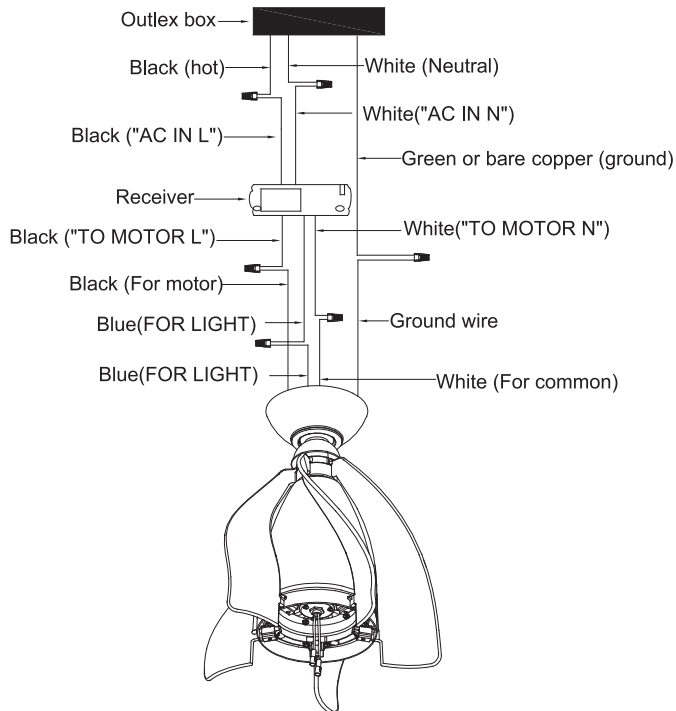

Fig. 17
Step 2. Motor to Receiver Electrical Connections: Connect the BLACK wire from the fan to BLACK wire marked "TO MOTOR L" from the receiver. Connect the WHITE wire from the fan to the WHITE wire marked "TO MOTOR N" from the receiver. Connect the BLUE wire from the fan to the BLUE wire marked "FOR LIGHT" from the receiver. Secure all the wire connections with the plastic wire nuts provided. (Fig. 17)
Step 3. Remote Receiver to Outlet Box Electrical Connections: Connect the BLACK (hot) wire from the ceiling to the BLACK wire marked "AC in L" from the receiver. Connect the WHITE (neutral) wire from the ceiling to the WHITE wire marked " AC in N" from the Receiver. Secure the wire connections with the plastic wire connectors provided. (Fig. 17)
Step 4. If your outlet box has a ground wire (green or bare copper) connect it to the fan ground wires : otherwise connect the hanging bracket ground wire to the mounting bracket. Secure the wire connection with a plastic nut provided. After connecting the wires, spread them apart so that the green and white wires are on one side of the outlet box and black and blue wires are on the other side. (Fig. 17)